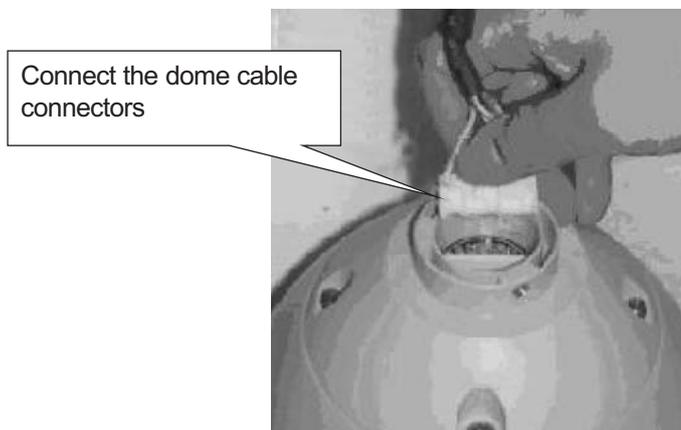

Fig 1.6
**Step 4-** Connect the dome connection cable to connector located in the aperture at the top of the dome housing, as shown in Fig 1.6.